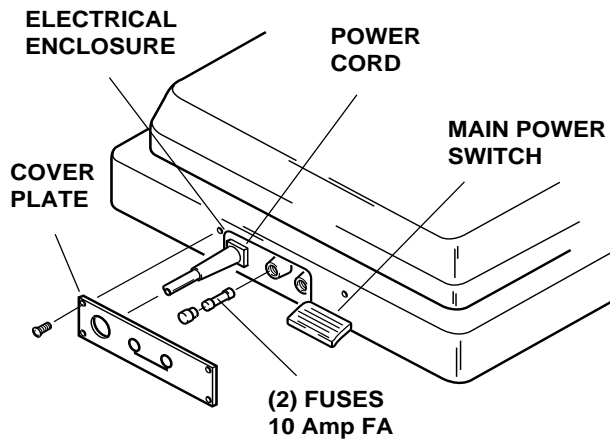

Figure 1-2. Power Switch and Fuse Location
The Elite 3000 Surgical Table requires a 120VAC, 60 Hz electrical power supply. The table is equipped with a 15 foot long power cord with a standard three prong, hospital grade plug. The electrical protection fuses (2) are located behind a cover plate in the electrical enclosure on the front edge of the base. See figure 1-2. The main power ON/OFF switch is located on the electrical enclosure.